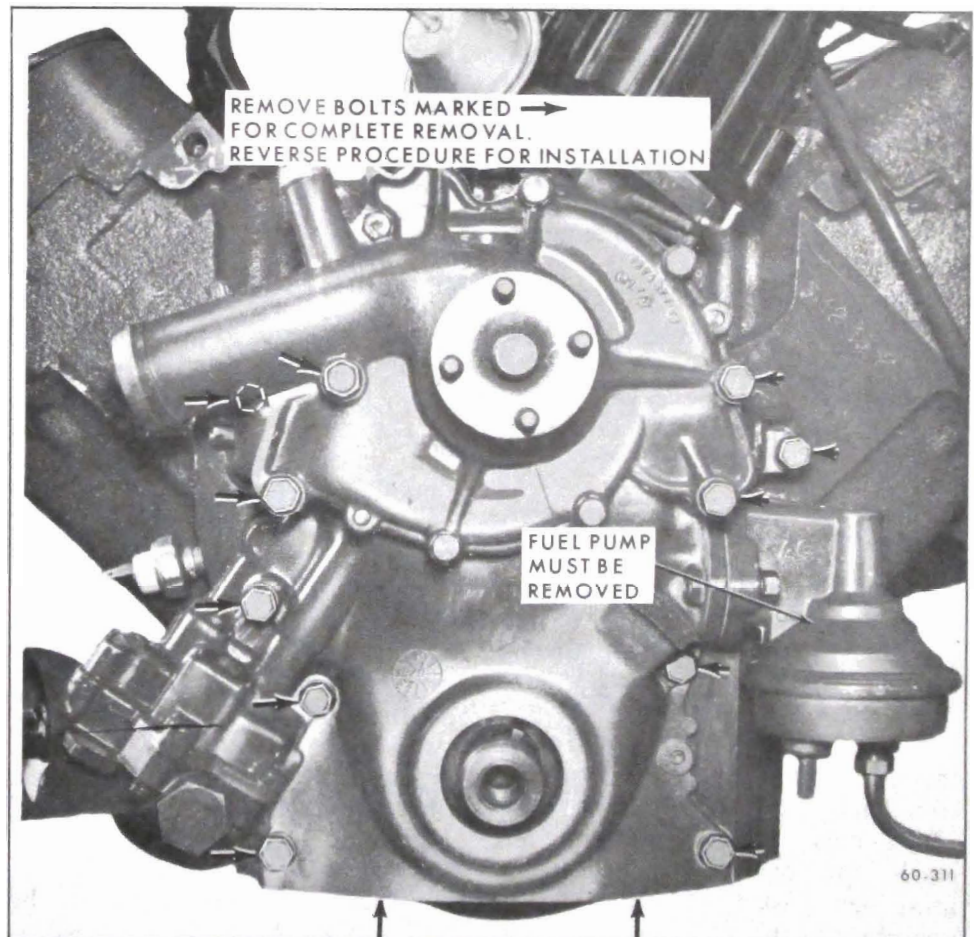

Figure 60-241 Timing Chain Cover Removal and Installation (350 cu.in.)
11. Remove bolts attaching timing chain cover to cylinder block. See Figures 60-241 and 60-242. Remove two oil pan to timing chain cover bolts 350 Cu. In. and 4 bolts on the
4. Lubricate the bolt threads before installation and install as shown in Figures 60-241 and 60-242.